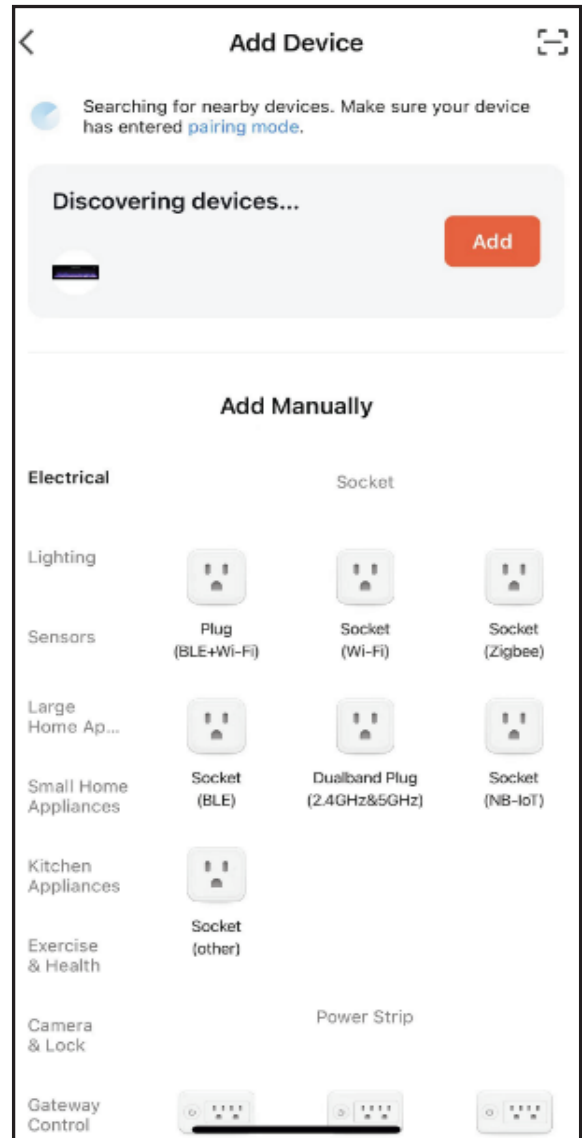
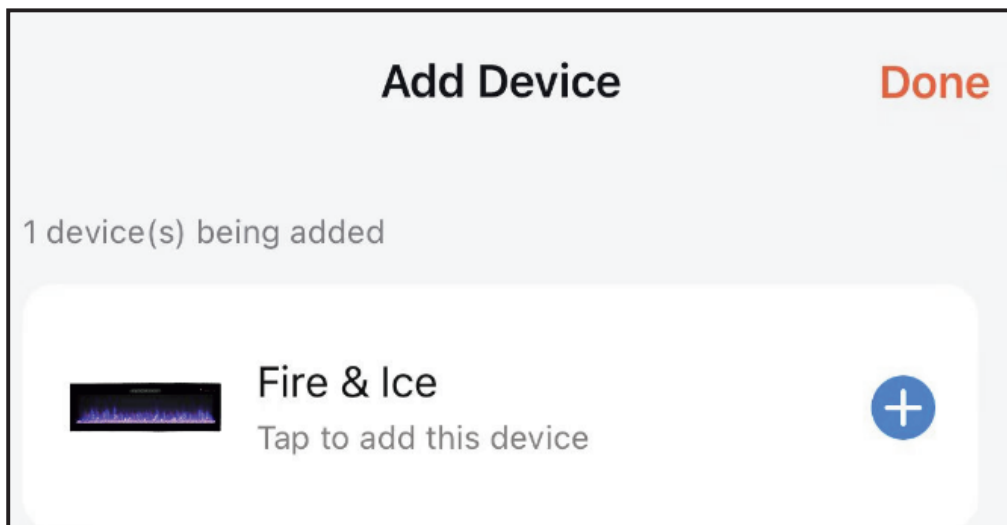
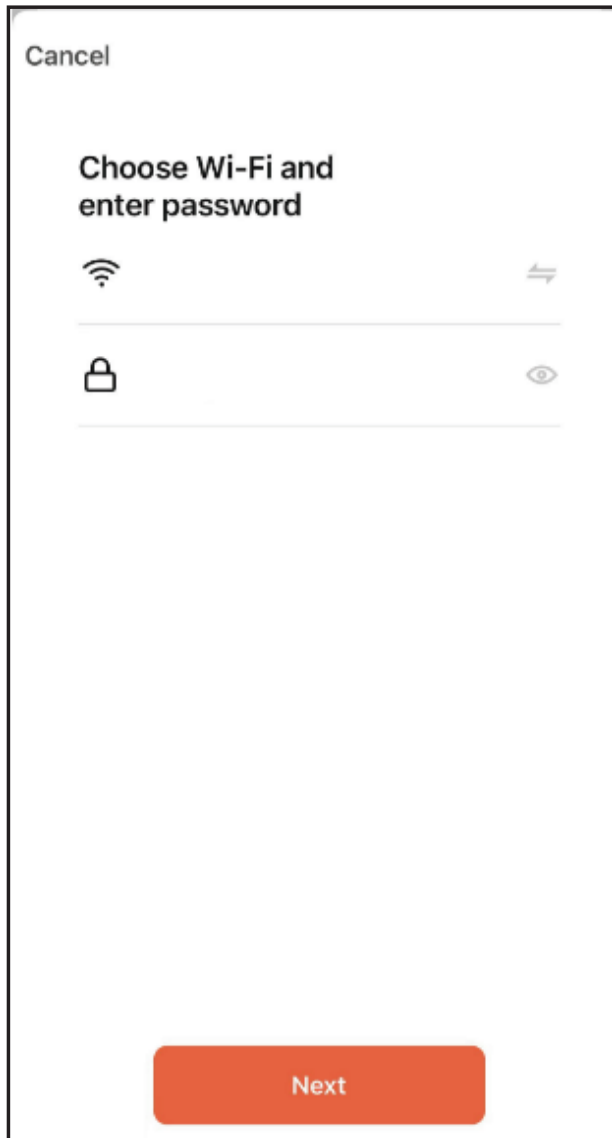

Figure 2
Figure 3
Figure 4
2. When you log in, the APP will scan and add the fireplace to APP(Figure.2) automatically. Touch “Add” to enter in Figure 3. Touch “+” to set your Wi-fi account and password(Figure 4). Touch “Next” to enter Figure 5. Touch “Done” to finish Wi-fi setting.